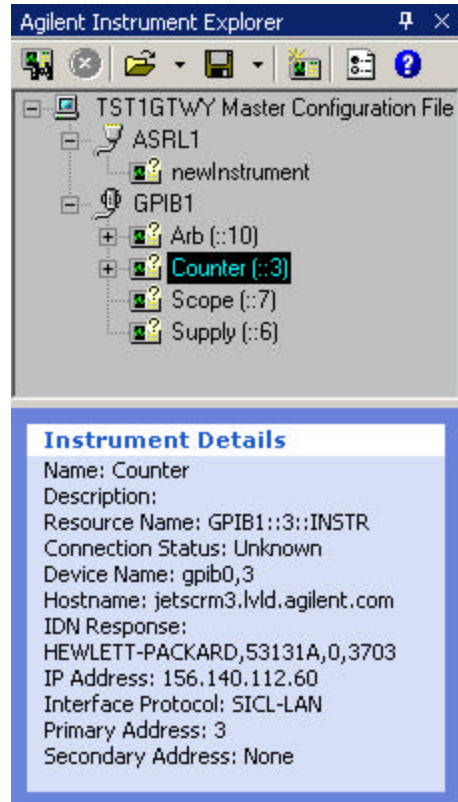

Figure 8 Instrument Description
- 5 Select an instrument and view detailed information about it in the Instrument Details area at the bottom of Instrument Explorer. See Figure 8 on page 27.